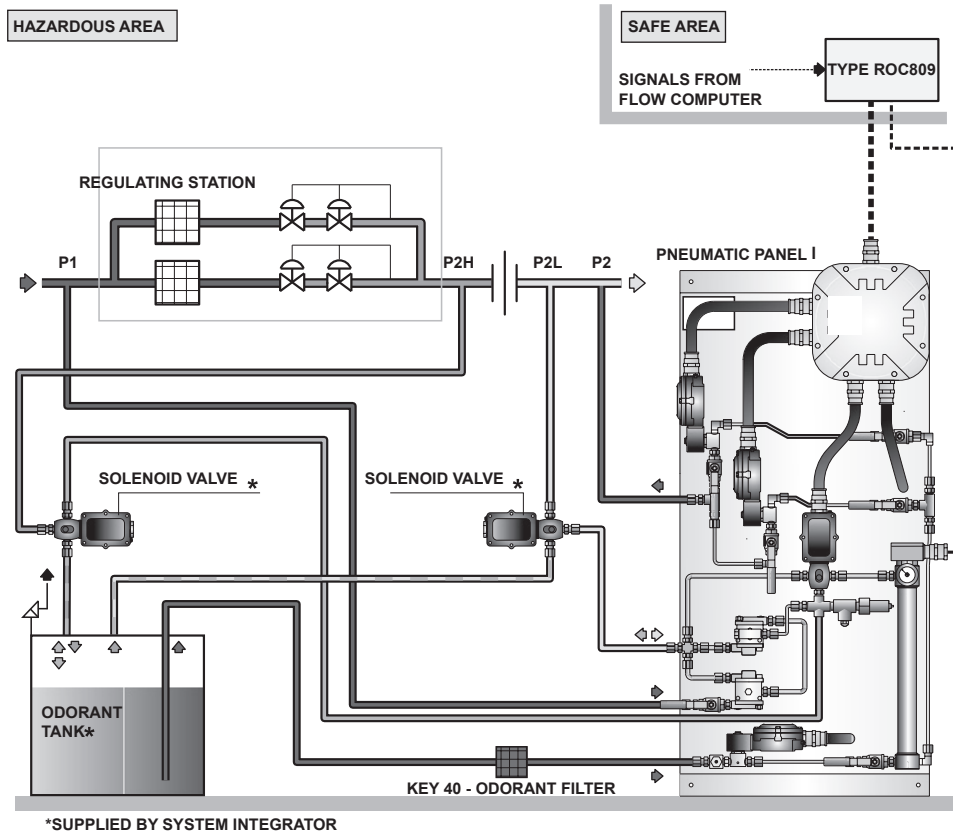

Figure 5. Automated Pressure Balancing System with Bypass Schematic
3. Optional 3-way valve for maintaining odorant storage tank at P_2 . This is commonly used with option 2. Refer to Figure 5.